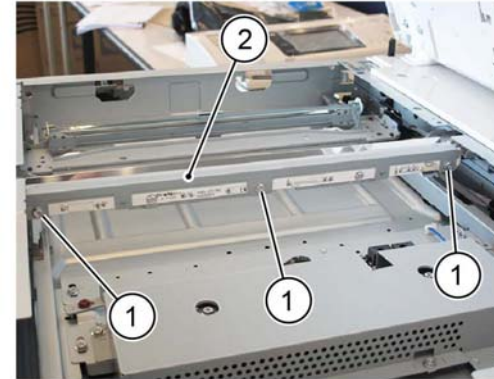

Figure 2 LED bracket removal
5. Remove the LED bracket, **Figure 2**:
- a. Remove three screws (1).
- b. Remove the LED bracket (2).